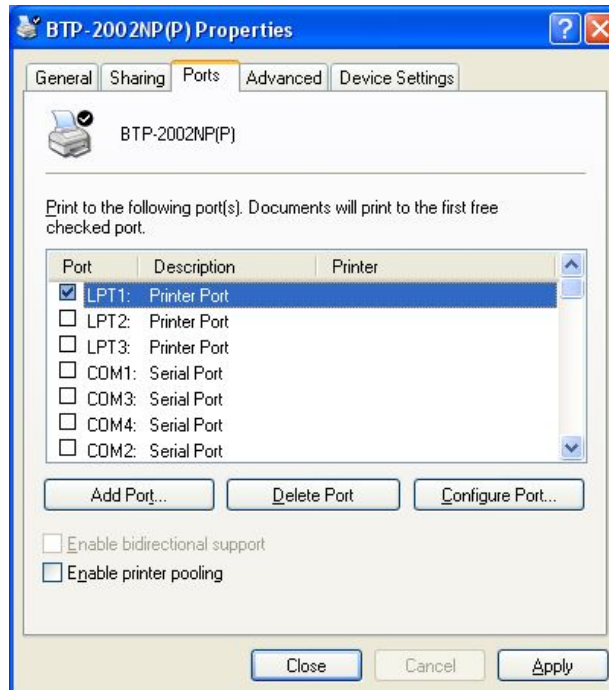

Figure 5.3.2 PORT property
- 2) Select “Port” property (see Figure 5.3.2), and the TCP/IP port has not been installed. Then click “Add Port” button;